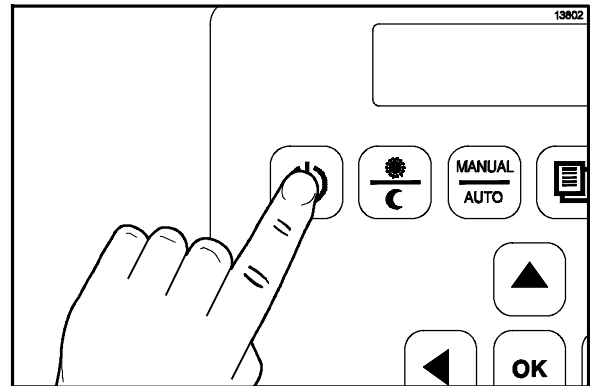

Figure 23
2. Heat up the grill by pressing the  key for 3 - 5 seconds. "AM TOO COOL" and "AM FOLDED EGGS - FLAT" will be displayed on the control screen. (See Figure 23.)